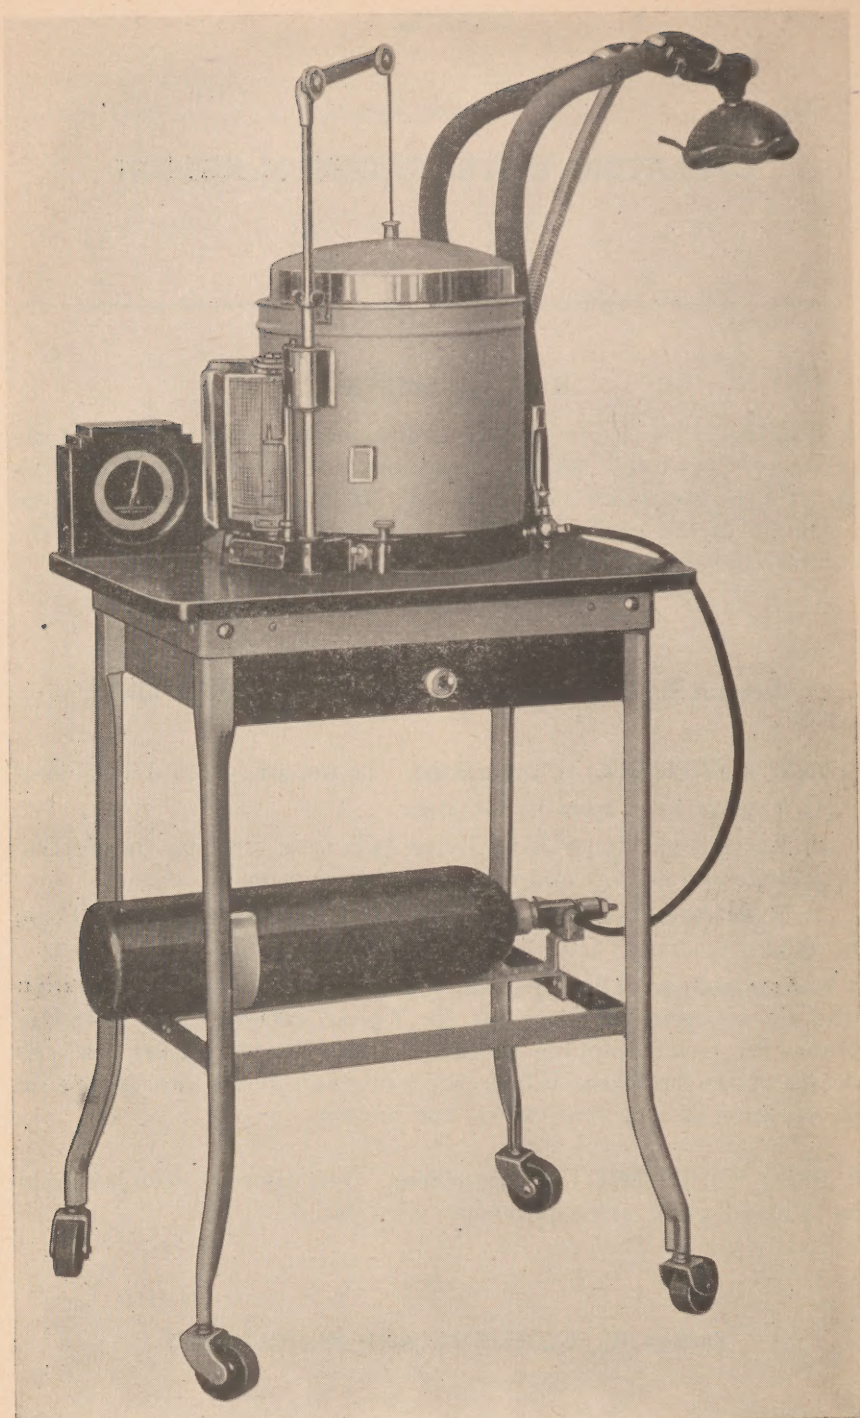

Figure 1. McKesson Recording Water Type Metabolometer Model No. 176.
7. CONTROLS. a. Toggle switch. The toggle switch (fig. 1) at the base starts and stops the chart.
b. Oxygen stopcock. The stopcock (fig. 1) is at the base of the apparatus near the thermometer. It regulates the flow of oxygen into the bell.
8. INSTRUMENTS. a. Thermometer. The thermometer (fig. 1), at the base, indicates the temperature for use in calculating the metabolic rate of the patient.
b. Barometer. The barometer (fig. 1), which is separate, indicates the barometric pressure for use in calculating the metabolic rate of the patient.